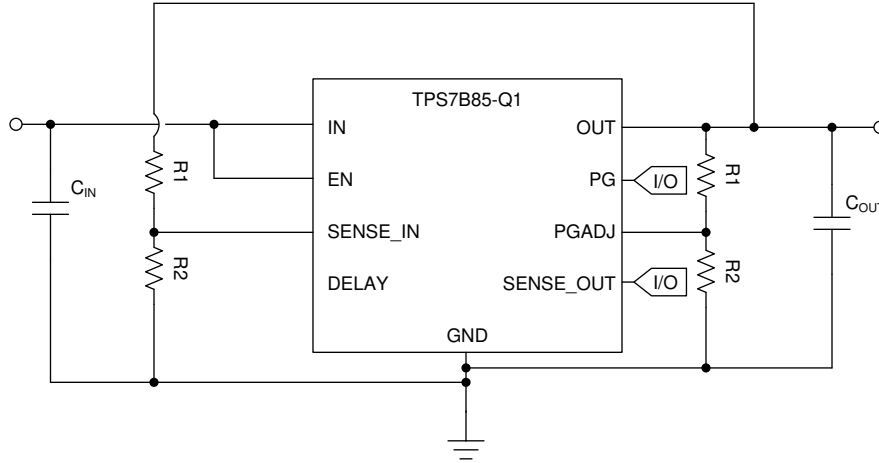

Figure 8-8. Creating an Overvoltage Detector on the Output
Another feature that is often desired is the ability to monitor the output voltage for overvoltage (OV) or undervoltage (UV) events. Because the integrated power-good pin only detects undervoltage events, a separate solution must be implemented to monitor for overvoltage issues. This monitoring can be done by using the integrated SI pin and connecting this pin to the output through a resistor divider. Then place the rising threshold of the SI pin where the output voltage is going to be flagged as overvoltage. Equation 7 depicts how to calculate the resistor divider for this application based on the desired overvoltage threshold. If this method is used for creating an overvoltage detection, the output of the overvoltage signal has inverted logic. Figure 8-8 shows the typical configuration for using the device as an overvoltage monitor.